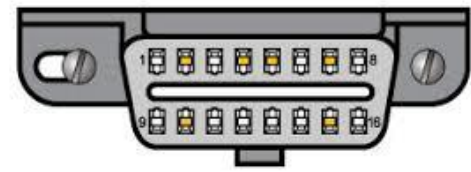

Fig. 3
2. Locate the onboard diagnostics connector (OBD) on the vehicle which will look similar to the example shown (**Fig 3**).